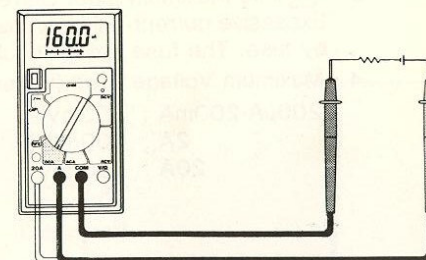

Fig. 5-4. DC Current Measurement
2. Set the function switch to the DC A range to be used and connect the test leads in series with the load under measurement. See Figure 5-4.